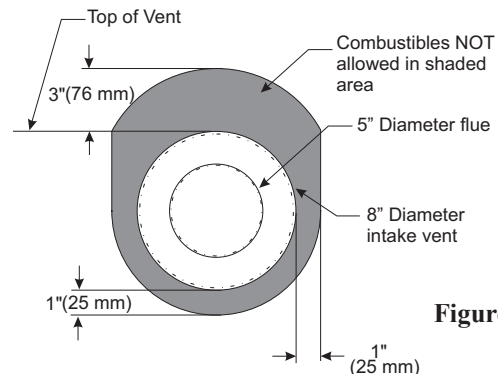

Figure 48
4. Install the Wall Firestop/Thimble assembly as required through the wall. Refer to the venting charts in the fireplace manual to determine the proper height and size of the vent opening. The minimum opening should be 10" wide by 12" high. The minimum combustible clearance from the horizontal vent is 1" from sides and bottom, and 3" above the vent pipe. See Figure 48.